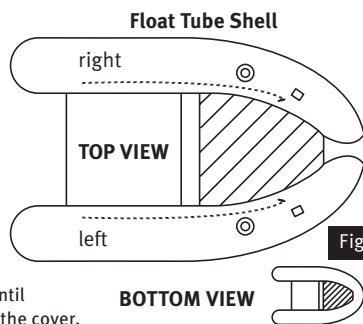
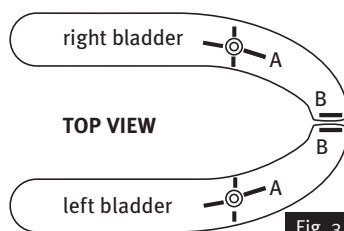

Fig. 2
Fig. 3
3. Check the bladders by unzipping the pontoons (Fig. 2). The bladders should lie flat, untwisted and centered underneath the pontoon pockets. Make sure the rip-and-grip tabs [A] and [B] that attach the bladder to the pontoon cover align (Fig. 3). (A twisted bladder will distort the cover when you blow it up.)